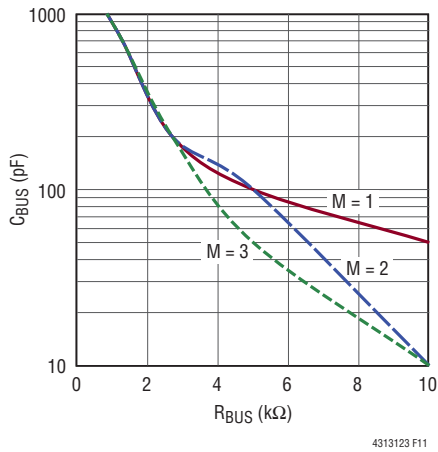

Figure 11. Recommended Maximum R1 and  $C_{B1}$  Values for the LTC4313 Operating with Multiple LTC4300As in a 3.3V System
- For 3.3V systems, refer to Figures 11 and 12 for operation with LTC4300As and LTC4307s. In the figures,